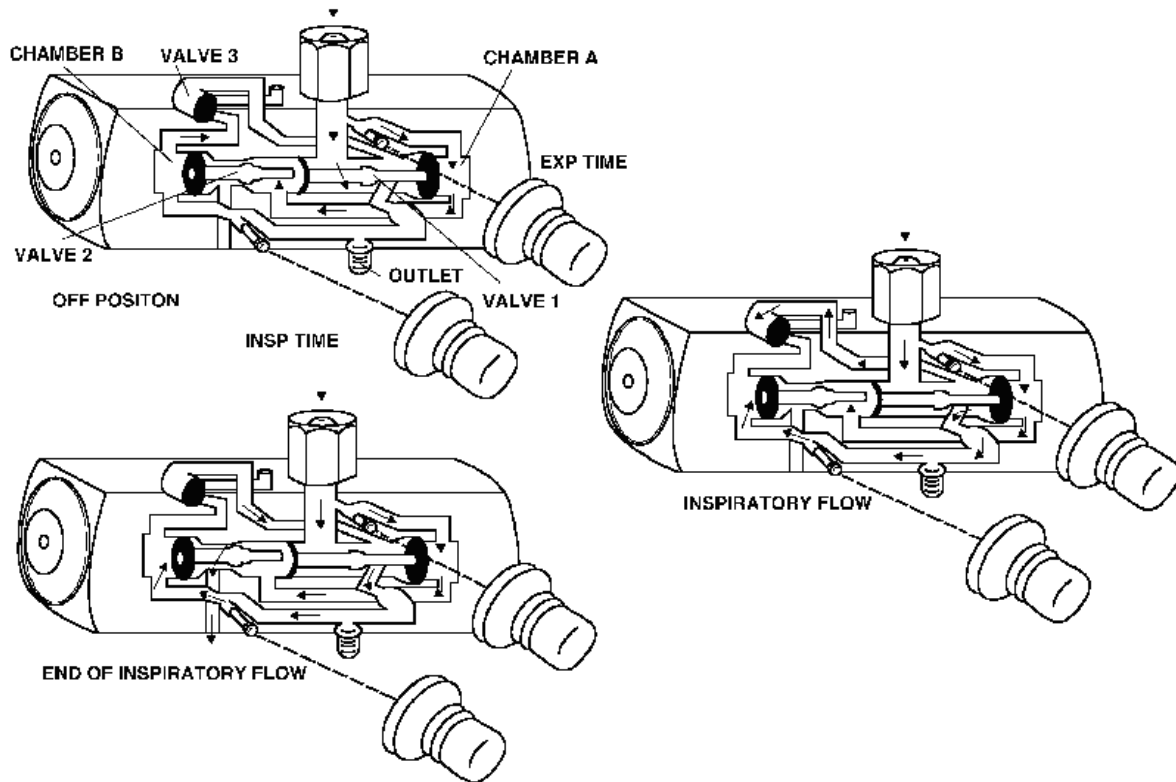

Figure 1-5. Mark 2 servo.
(4) Mark 2 servo. The Mark 2 servo (figure 1-5) functions only in the controlled intermittent mandatory ventilation phase and has two controls. One control sets inspiratory time, the other sets expiratory time. The servo consists of a central valve assembly called a "plunger." It operates between two diaphragms separating the plunger from two timing chambers. When gas pressure is first supplied to the Mark 2 servo inlet, the right-hand disc (valve number 1) is closed and no gas flows from the outlet. Gas will flow through the expiratory time control valve into chamber A, causing pressure to build up since valve number 2 is closed. When pressure in chamber A is strong enough to overcome the force of spring tension on valve number 1, the valve opens and gas flows through the outlet. Gas also flows into timing chamber B, causing pressure against the diaphragm to increase. Valve number 3 is closed by pressure from valve number 1. When valve number 2 closes, pressure again builds up in chamber A through the expiratory time control valve.